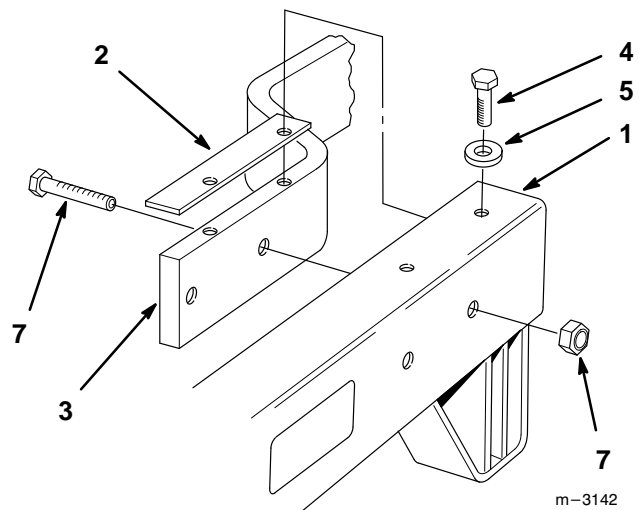

Figure 2
1. Align the carrier frame and shim holes with the mounting holes in the traction unit frame (Fig. 2).
2. Fasten each side of the carrier frame to the traction unit with (2) 3/8-16 x 7/8" (22 mm) bolts and washers, down from the top, and (2) 3/8-19 x 1-3/4" (44 mm) bolts and 3/8-16 locknuts, through the side (Fig. 2).
3. Torque the mounting screws to 240-320 in-lb (27–36 N•m) (Fig. 2).